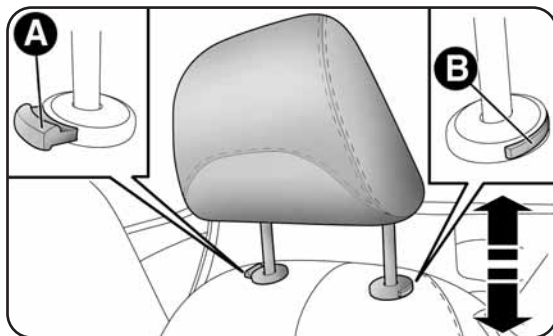

fig. 24
- downward adjustment: press button A-fig. 24 and lower the head restraint.
- press buttons A and B-fig. 24 and then remove the head restraint by sliding it upwards.